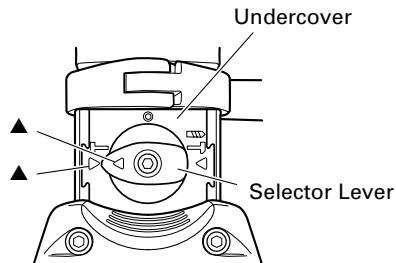

Fig. 7
- Align ▲ of the selector lever with ▲ on the T side of the undercover as illustrated in Fig. 7.